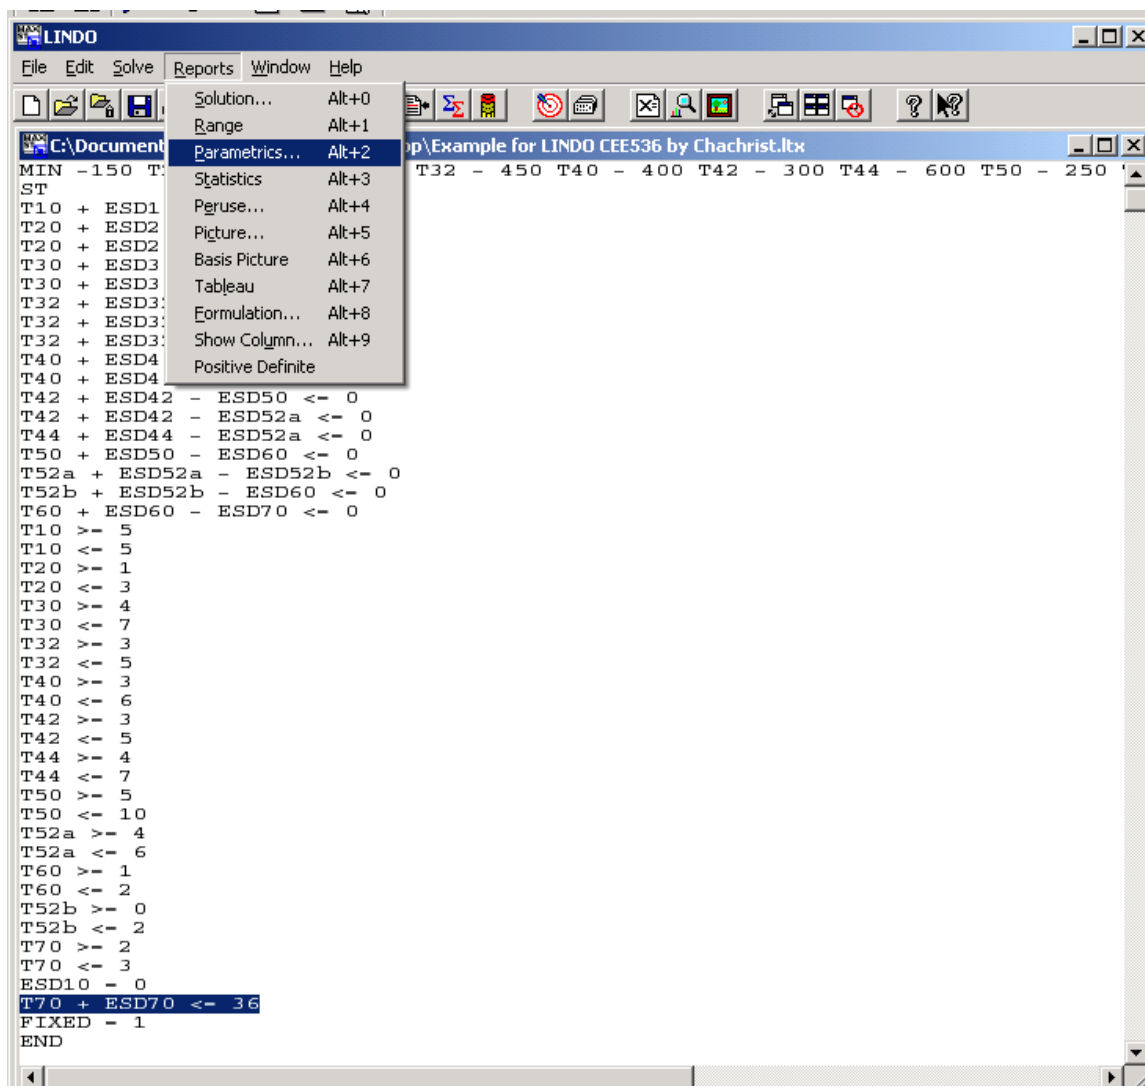

Figure 4.1: Parametrics
Step 4.1: After you solve the problem, go to Reports → Parametrics. (See Figure 4.1)